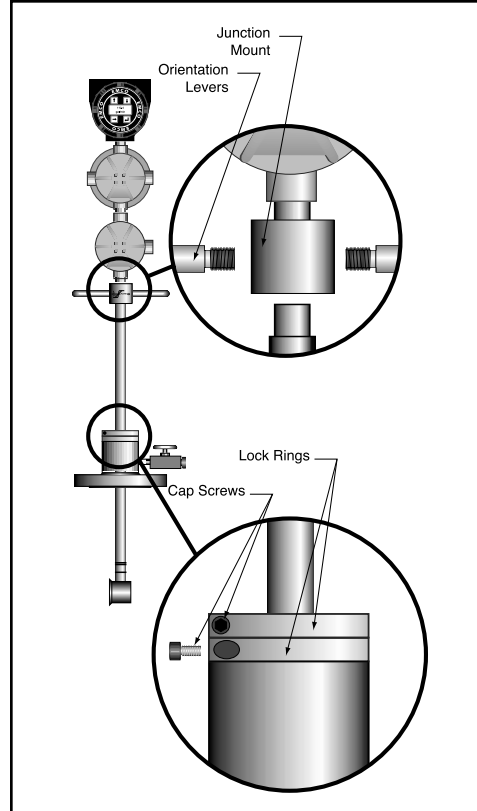

Figure 6-20. Removing the V-Bar-800 Sensor. Unscrew the stem from the junction mount and remove the stem by pulling it out from the bottom of the meter.
Step 3. Loosen the orientation levers. For the temperature or pressure transmitter options remove the two terminal block set screws from the terminal wiring block in the field wiring conduit. Pull the terminal block out far enough to clear a path for the sensor connector. (Figure 6-20)